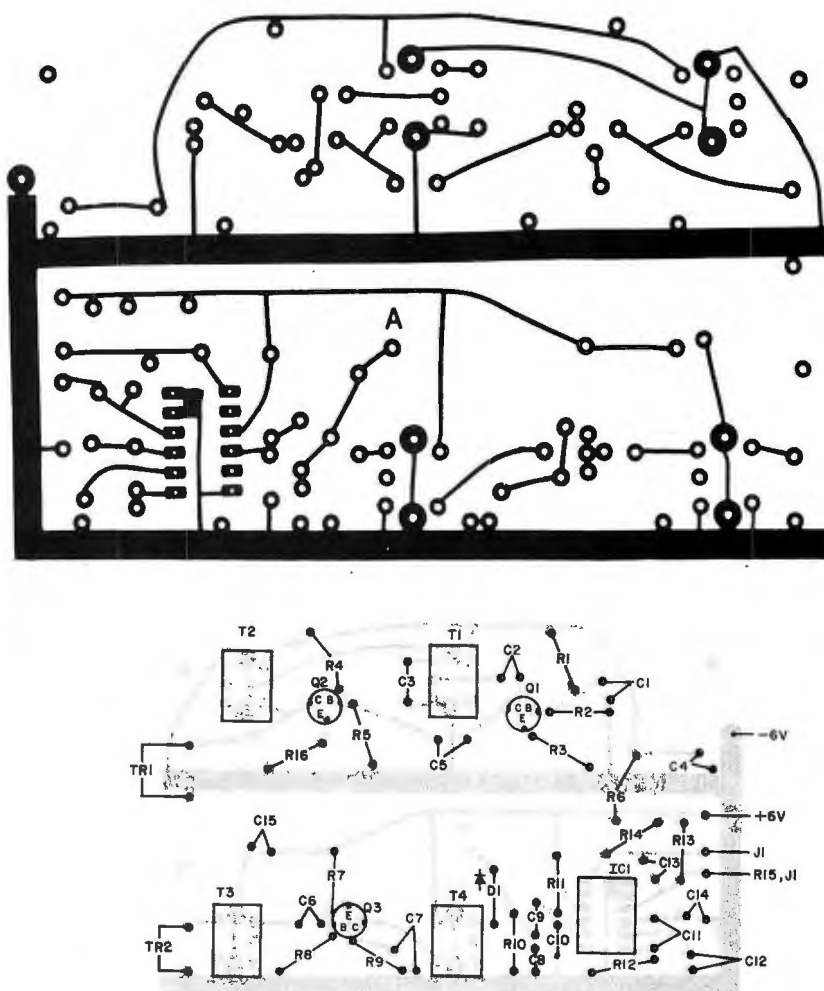

Fig. 3. Etching and drilling guide for printed circuit board is at top. Component layout below.
**Construction.** The circuits are assembled on a single pc board, using the foil pattern and component installation shown in Fig. 3. Since IC1 is in a round, TO-type package, you must bend its leads to conform to the in-line pads on the board.
Connect the transducer cable to the pc board as shown in Fig. 3, with each shield connected to ground.